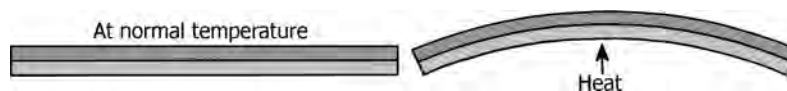

FIGURE 12.21 Bimetallic element made out of two laminated dissimilar metal strips. (Courtesy: Spirax Sarco.)
- Bimetallic steam traps are constructed using two strips of dissimilar metals welded together into one element. The element deflects when heated as illustrated in Figure 12.21.